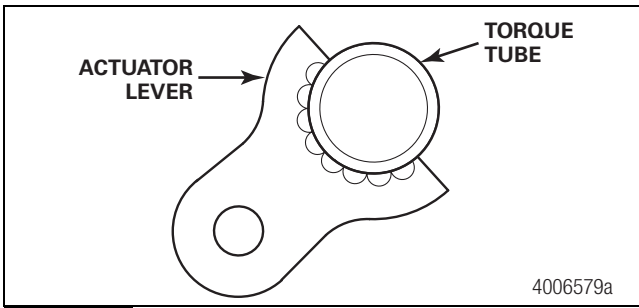

Figure 13
14. Weld both sides of the actuator lever to the torque tube. Figure 13.